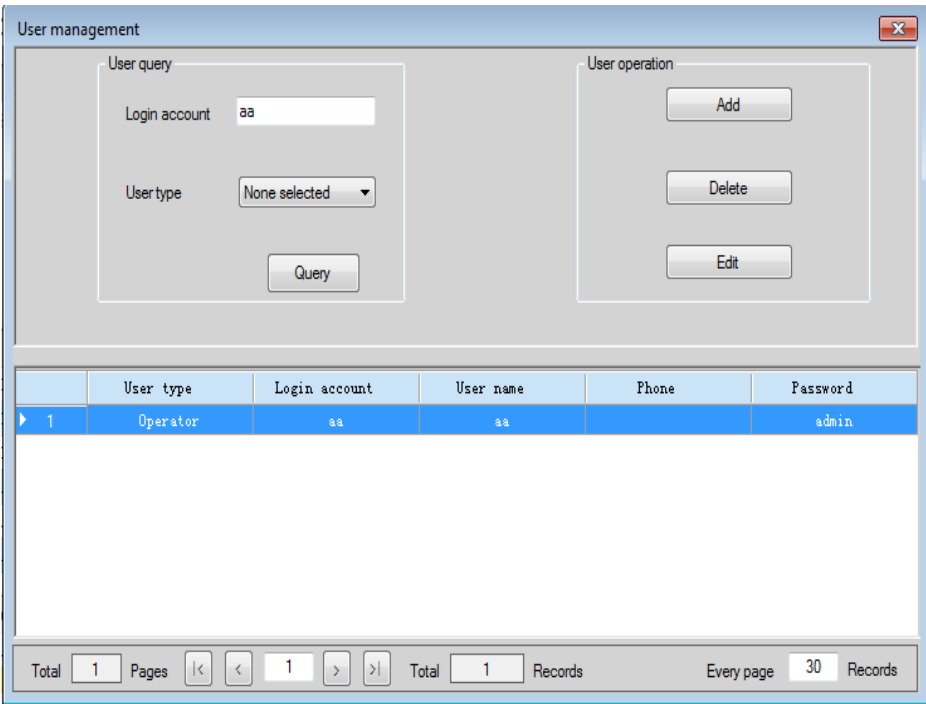

Fig.4.9 User management
You can query user in Fig.4.9 and the query condition includes:
- (1) User information: Input a login account and can see all information included by login account by clicking “Query” button.
- (2) User type: Click “User type” (see Fig.4.9) to view user information by selecting administrator, operator, browser.